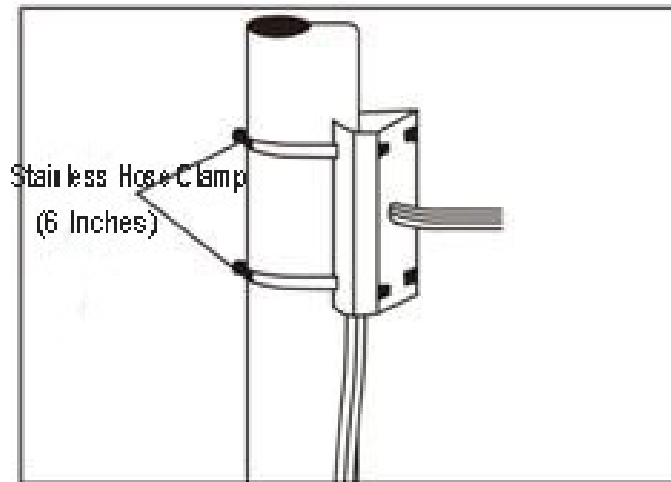

Fig 9
- a. As shown in fig 9, use the stainless hose clamps to fix the pole mounted attachment with all cable through it on the pole structure.